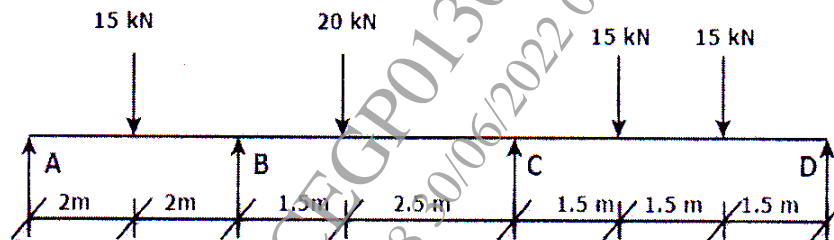

Figure 11
b) A three span continuous beam ABCD is loaded with ultimate loads as shown in figure 11. Determine the required plastic moment of resistance when the beam is of uniform section. [11]